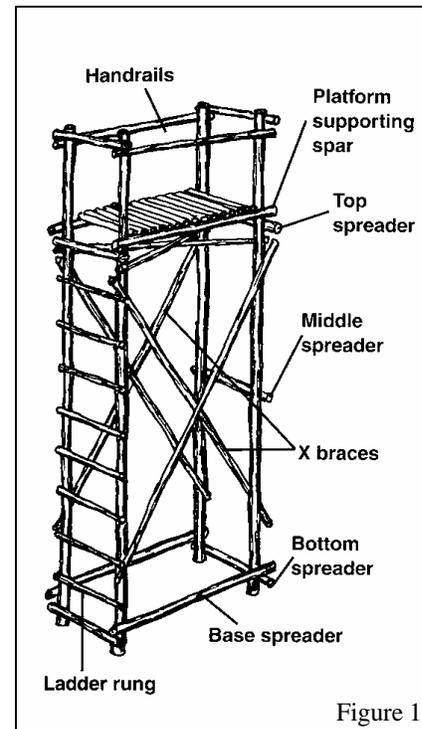

Figure 1
- Mark 10' from the butt end of the 14' spars. This is where the **Top Spreader** (See Figure 1) will be placed. Lash a 3' spar to this location using square lashings. Ensure that you maintain the 2-½' separation between the 14' spars..
- Mark 10' from the butt end of the 14' spars. This is where the **Top Spreader** (See Figure 1) will be placed. Lash a 3' spar to the 14' spars at this location using square lashings. Ensure that you maintain the 2-½' separation between the 14' spars. Use square lashings.
- Lash on a **Base Spreader** (See Figure 1) to join the bottoms of the ladder and non-ladder sections. Use a 6’ spar. Use square lashings. The **Base Spreader** is placed just above the **Bottom Spreader**.